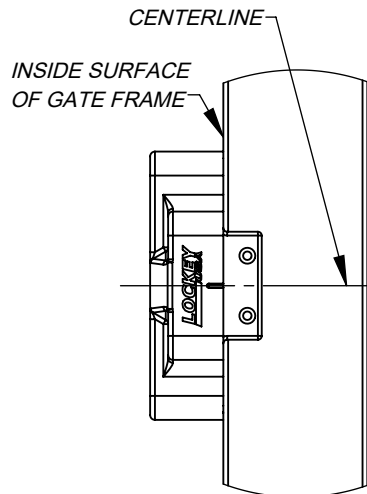

Figure 4
2) Hold the Adapter Housing to the inside surface of the gate frame to use it as a template for marking the holes, and align with the centerline marked in Step 1 (Figure 4). Mark the top and bottom holes for the hex standoffs, as well as the spindle hole near the lower hex standoff hole. The holes marked in this step should be aligned with the holes marked in Step 1.
3) From the outside surface of the gate, drill the (2) hex standoff holes (5/16" diameter min.) and the (1) spindle hole (1/2" diameter min.) marked in Step 1. From the inside surface of the gate, drill the (2) hex standoff holes and the (1) spindle hole marked in Step 2. At this point, there should be (3) holes that pass all the way through the gate, allowing the 2835 Outside Body and Inside Body to be connected in later steps.
4) Hold the Adapter Housing to the outside surface of the gate and aligned with the clearance holes. Using (3) #8 x 1" flat head phillips screws, attach the Adapter Housing to the gate using the front countersunk hole and the side-mounting countersunk holes.